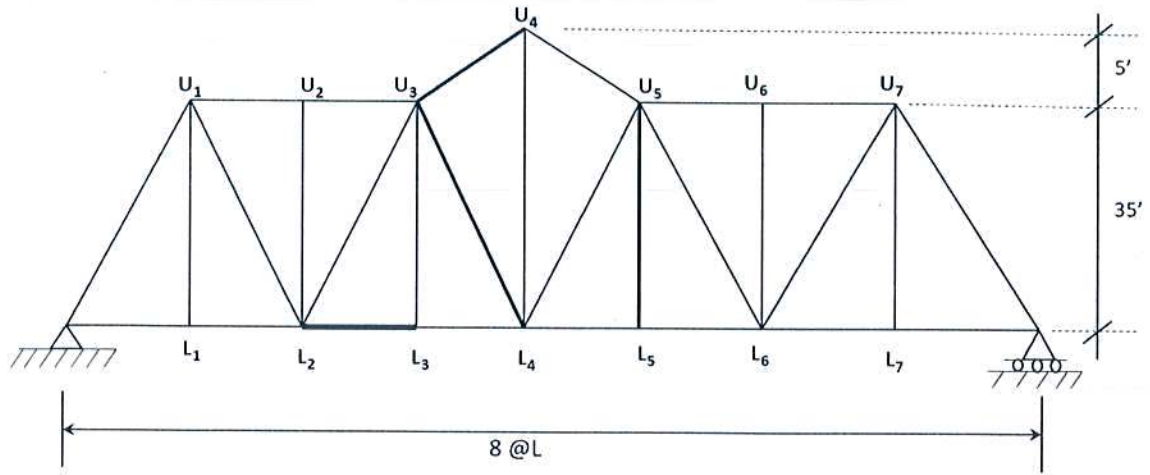

Fig:5
6. Draw influence line of the truss (shown in Fig 5) for force in bar  $U_3U_4$ ,  $U_3L_4$ ,  $L_2L_3$  and  $U_5L_5$ . (13)